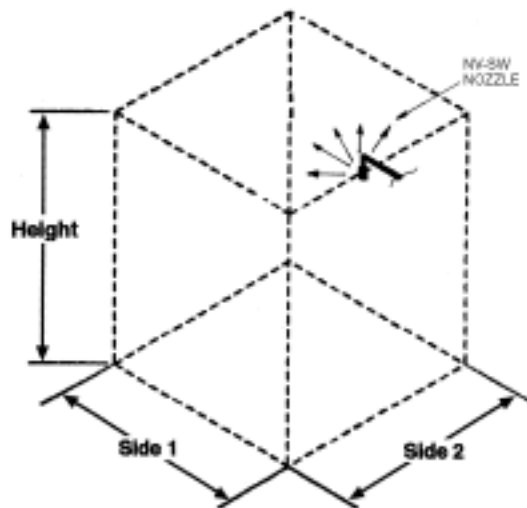

Figure 3-2. Sidewall Nozzle Location
For sidewall application, the nozzle is to be mounted no greater than six (6) inches from both the ceiling and wall (see Note) with the arrow pointing towards the center of the protected area. **See Figure 3-2.**